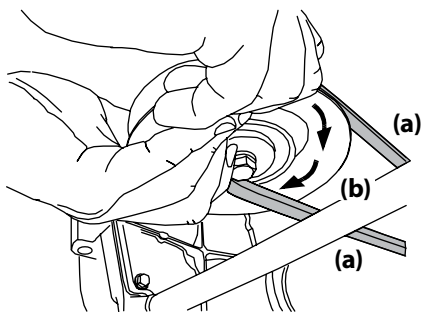

Figure 4-10
- d. While still holding the PTO belt (a) downward, continue turning the PTO pulley (b) until the PTO belt (a) is rolled off the PTO pulley (b). Refer to Figure 4-10.
11. Pull the right side of the PTO belt rearward and place the narrow V-side of the PTO belt into the PTO pulley. See Figure 4-10.
12. While holding the PTO belt and PTO pulley together, rotate the PTO pulley to the left (See Figure 4-10). Continue holding and rotating the PTO pulley and PTO belt until the PTO belt is fully rolled into the PTO pulley.